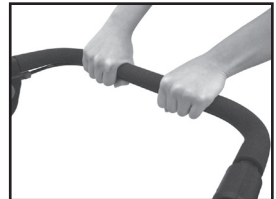

Fig. 17
2. Pull the Start/stop lever (1) towards the handle and then release the lock-off button (14) (Fig 17).
**Note:** There will be a short delay in the motor starting after engaging the start/stop lever (1).
3. Release the start/stop lever (1) to stop the mower.